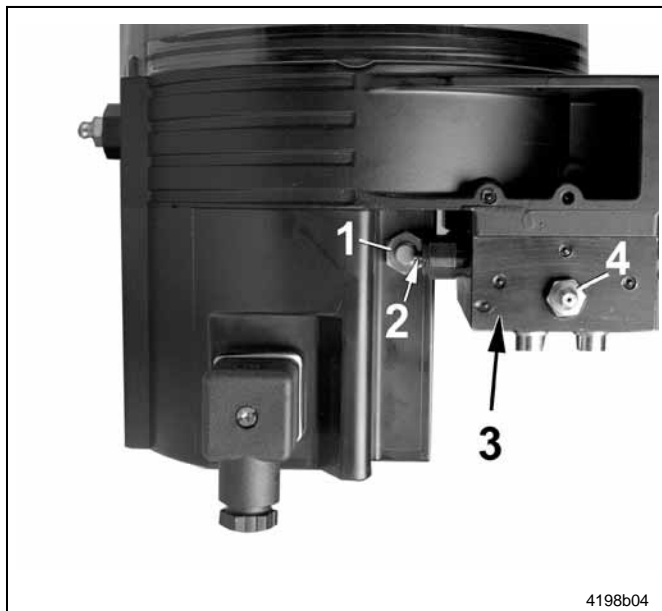

Fig. 14 QLS 401 with back position of the SSV divider block
- SSV divider block mounted on the back (see Fig. 14)
- When all lubrication points have received lubricant, an internal proximity switch 1 Fig. 14 turns the motor off, completing one lubrication cycle.